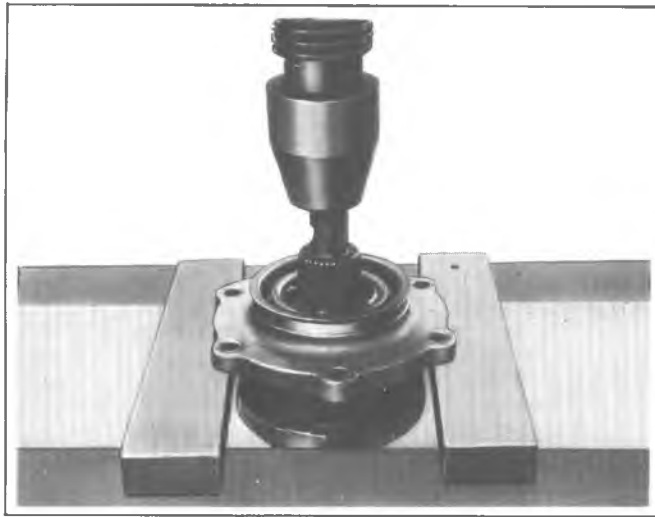

Fig. 10E--Pressing Drive Pinion from Bearing Retainer
5. Support the bearing retainer as shown in figure 10E and press out the drive pinion. Do not allow drive pinion to fall onto the floor.